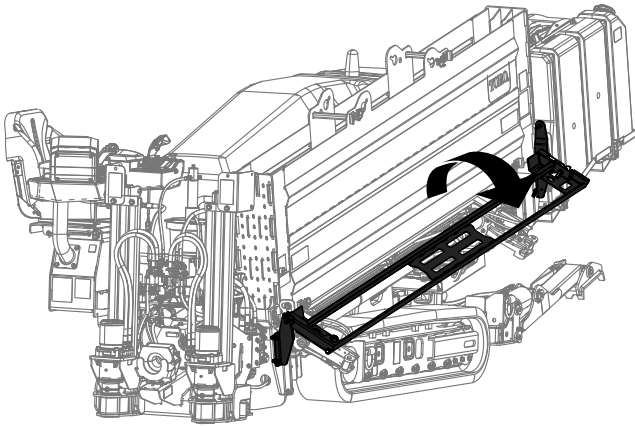

Figure 57
4. Lower the pipe loading guard (Figure 57).